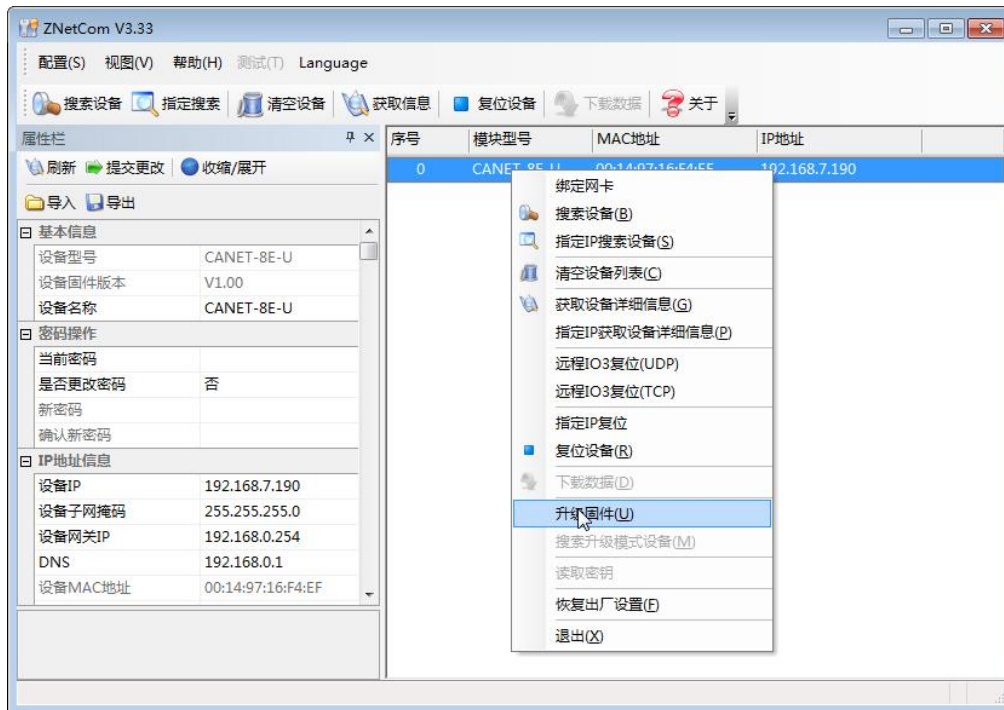

Figure 6.12 Firmware Upgrade menu
- In the device list column of ZNetCom software, select the device to be upgraded in the list item, and right-click the mouse. The menu items appear, as shown in Figure 6.12.